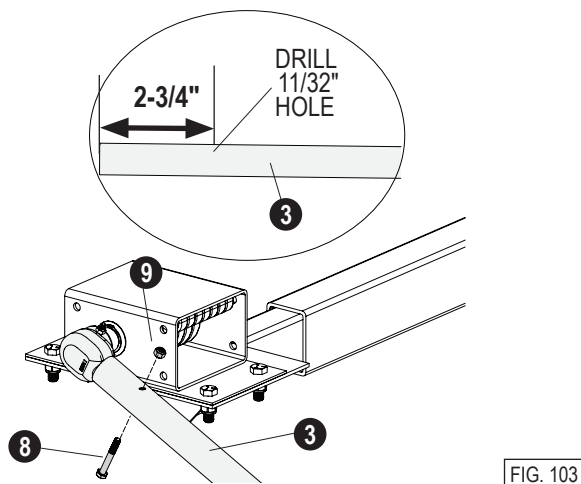

FIG. 103
- Locate the end of each lower arm without predrilled holes, measure 2-3/4 inches inward from the end of each **lower arm (3)** and mark the center of the tube. Drill one hole on each arm using a 11/32-inch drill bit.
- Slide the **arms (3)** onto the installed **castings (7)**. The castings may need to be rotated upward to install the lower arms.
- Secure each lower arm to a casting with **hex cap screws (8)** and **nut (9)**, as shown in Figure 103.